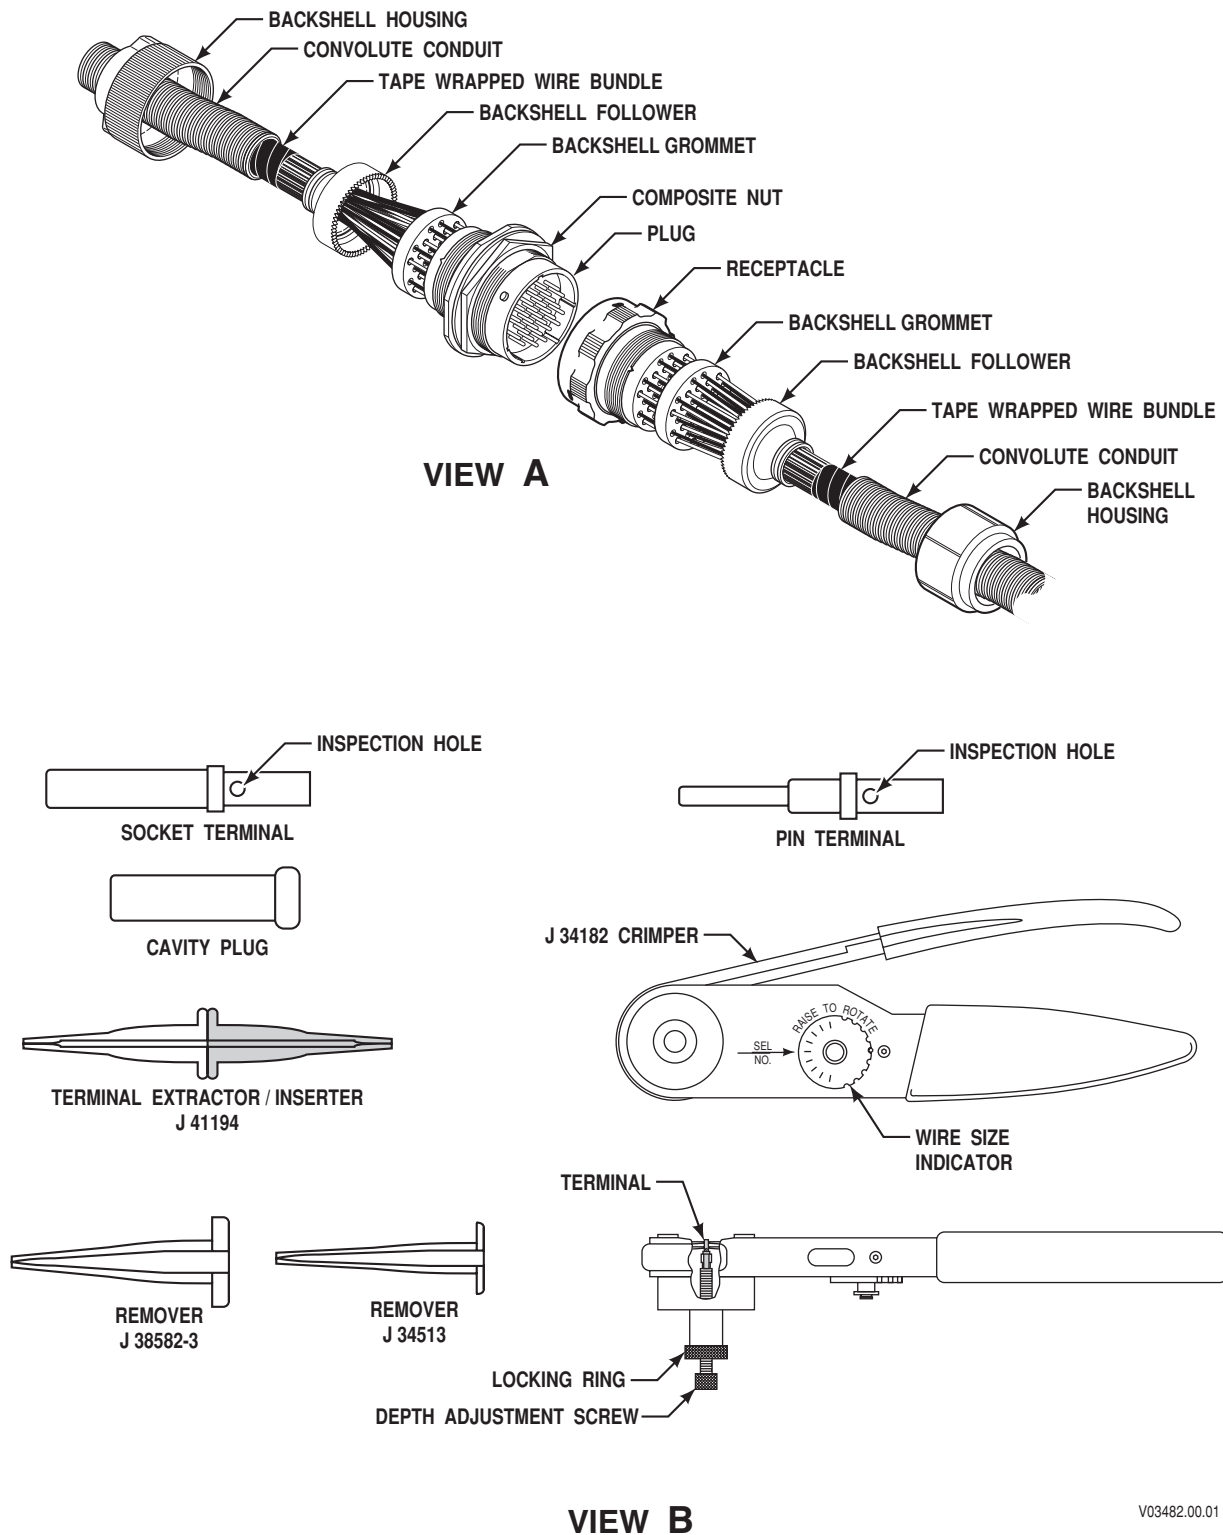

Figure E-10. Deutsch IPD/ECD Connectors (31-Way Bulkhead, 31-Way Feedthrough Harness; 16-Way Optional Sensor Harness; 6-Way Optional Diagnostic Connector)
### C. Terminal Crimping (Figure E-10, View B)
### C. Terminal Crimping (Figure E-10, View B) (*cont'd*)
**NOTE:** *If replacing a backshell grommet (refer to Figure E-10, View A, showing the ECD bulkhead), make sure the backshell grommet is correctly installed. Each backshell grommet hole is marked with the terminal ID (Figure E-20) of the wire that passes through that hole. The backshell grommet holes match the pattern of either the pins or sockets in the receptacle or plug, respectively. One side of the backshell grommet is marked “PIN” and the other “SKT” or “SOC”. “PIN” indicates the pin (receptacle) side of the connector and “SKT” or “SOC” the socket (plug) side. When installing the backshell grommet onto the receptacle, make sure “PIN” is showing and positioned so that the “A” terminal ID on the backshell grommet aligns with the “A” terminal ID on the receptacle. When installing the backshell grommet onto the plug, “SKT” or “SOC” must be showing and positioned so that the “A” terminal ID on the backshell grommet aligns with the “A” terminal ID on the plug. Reversing “PIN” and “SKT” or “SOC” sides of the backshell grommet will cause the backshell grommet holes to be misaligned with the holes in either the receptacle or plug. Perform Steps 1 and 2 only if the backshell grommet has been removed.*